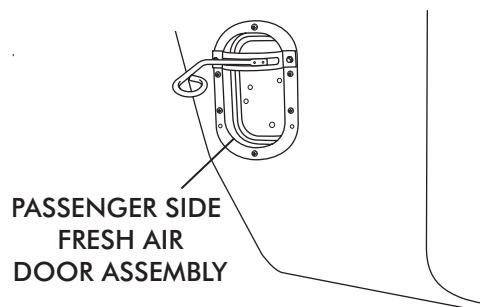

FIGURE 2a
- ☐ REMOVE PASSENGER SIDE FRESH AIR DOOR ASSEMBLY (DISCARD) (RETAIN SCREWS) (SEE FIGURE 2a).